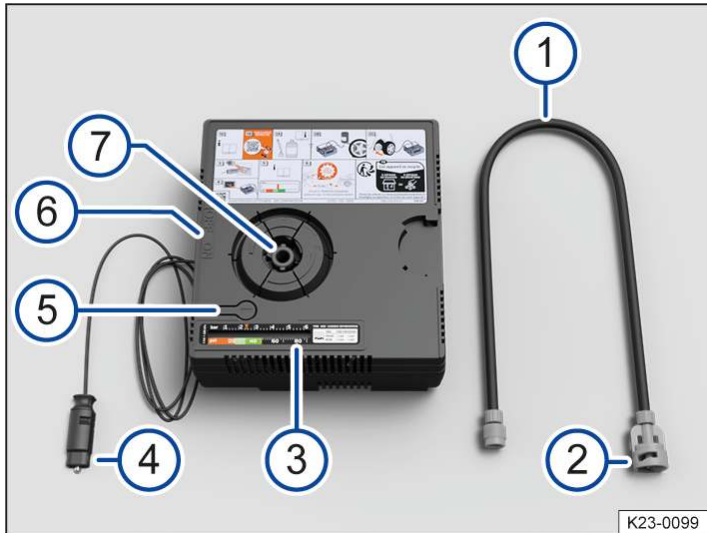
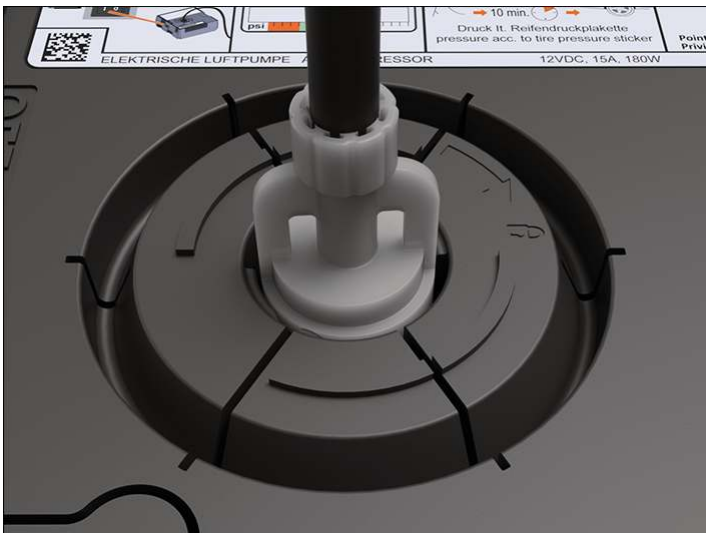

Fig. 2 Compressor in the breakdown set (illustration).
Fig. 3 Connecting the tyre filler hose.
1. Remove the tyre filler hose → Fig. 2 ① from the rear of the compressor.
2. Insert the tyre filler hose → Fig. 2 ① with the wing nut ② into the mount for the tyre filler hose ⑦ so that the wing nut is pointing to ☞ → Fig. 3.
3. Turn the wing nut → Fig. 2 ② in clockwise direction until the wing nut is pointing to ☞ → Fig. 3.
4. Screw the tyre filler hose → Fig. 2 ① of the compressor tightly onto the tyre valve.
6. Insert the 12-volt plug → Fig. 2 (4) into one of the vehicle's 12-volt sockets (→ Sockets).
7. Switch on the compressor with the ON/OFF switch → Fig. 2 (6).